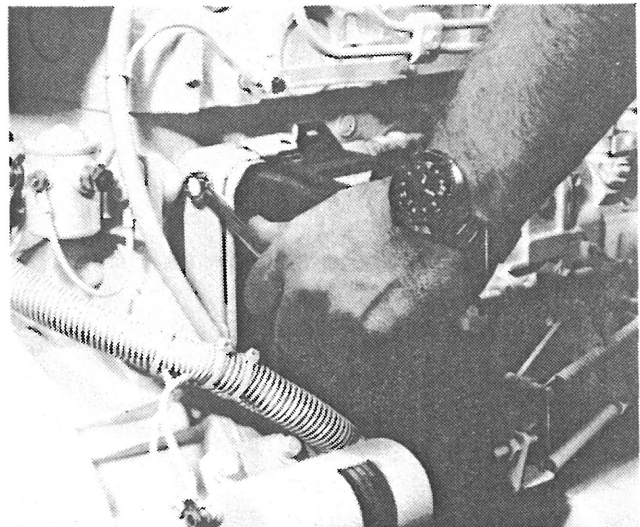
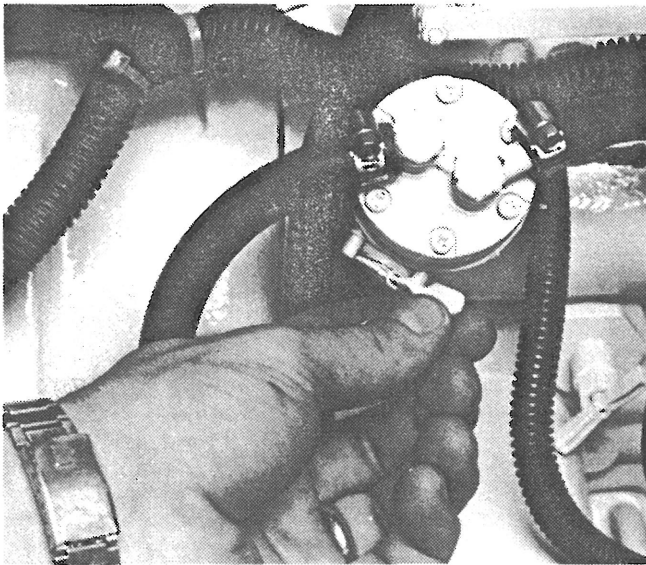

Figure 47 - Bleed screw, fuel filter.
Figure 49 - Hand bled primer pump
- d. Open the bleed screw at the top of the fuel filter, (figure 47), and let the air bubbles escape from the screw while pumping the hand primer (figure 49). Close the bleed screw.